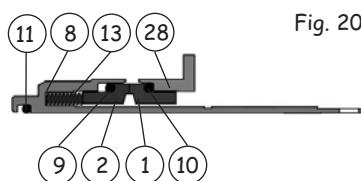

Fig. 20
4.6.1 Preassembling rotating group (fig.20)